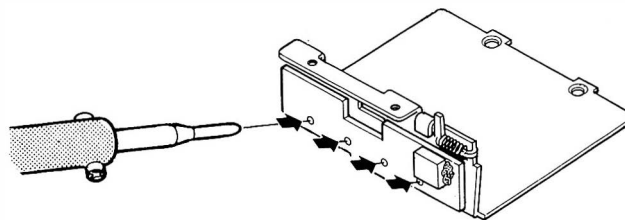

Figure 7.
- The Sub-Panel Unit also contains the Contact Unit, which makes electrical connection with the battery pack using 4 spring-loaded pins. To separate the Contact Unit, use an iron and desoldering braid or vacuum-type suction unit to desolder the 4 pin connections on the PCB (Fig. 7). The Contact Unit can then be removed from the Sub Panel.